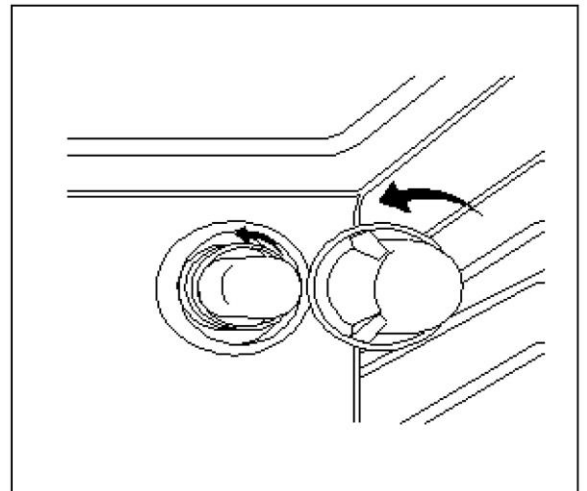

Figure 10
2. Remove the glass cover of the lamp-holder, turning counter-clockwise. (See Figure 10)